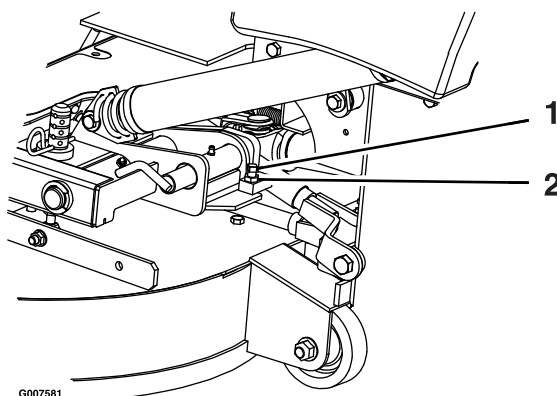

Figure 82
2. Loosen the jam nut and turn the stop screw clockwise until the locking pin is tight and cannot be rotated by hand (Figure 82).